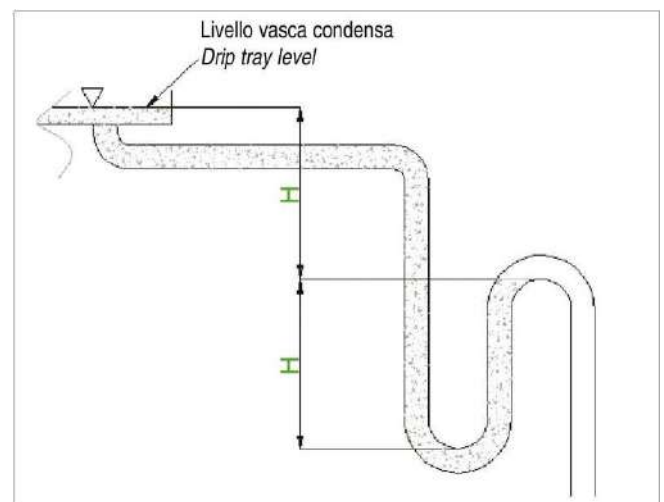

Fig.16
7.8.2 COLLEGAMENTO SCARICO CONDENZA SEZIONE - SBFR (Fig. 16)
7.8.2 CONNECTION OF THE SBFR SECTION CONDENSATE DRAIN (Fig. 16)